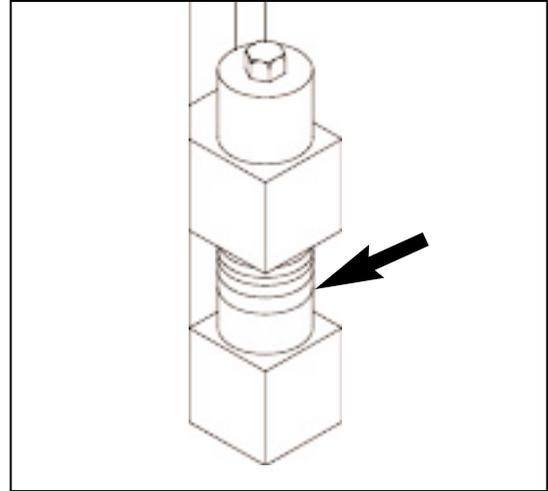

Figure 4.40 83mm [3 1/4"] OF SPACERS.
e. Store spacers on bottom side of bolt for front bolts and left hand rear bolt. For right hand rear bolt store spacers on top. Tighten bolts at all 4 corners that secure mold throat plate spacers. (See figure 4.40).